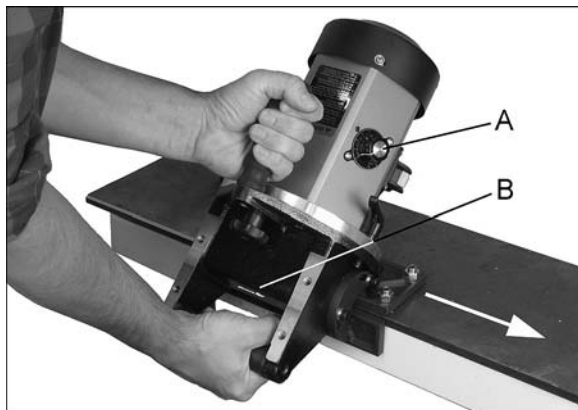

Figure 8-2: portable operation
The Plate Beveling Machine may be used in portable or hand-held position, as shown in Figure 8-2; or mounted to a workbench in fixed position as shown on cover photo. If mounting to workbench, attach the pedestal using the provided wing screws, and use appropriate fasteners (not provided) to secure to bench.
3. Turn speed dial (A, Figure 8-2) to "0".
5. Adjust speed dial (A). Red light near dial will illuminate.